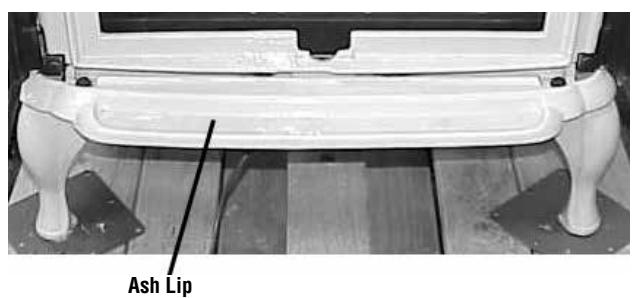

Figure 33
B. Locate the *ash lip* from packaging (Step 2). Remove the 2 bolts from the tapped holes in the ash lip. Align the ash lip below the firebox as shown in **Figure 33** (the tapped holes in ash lip should align with corresponding slots below firebox). Reinstall the 2 bolts that were removed from the ash lip (finger tight only. If a tool is used, be careful not to overtighten).